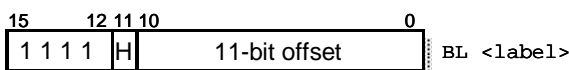

Fig. 6
4. Find the instruction coding of Thumb instruction "BL target" in the following program according to the Thumb branch instruction binary encoding shown in Fig. 6. (8%)